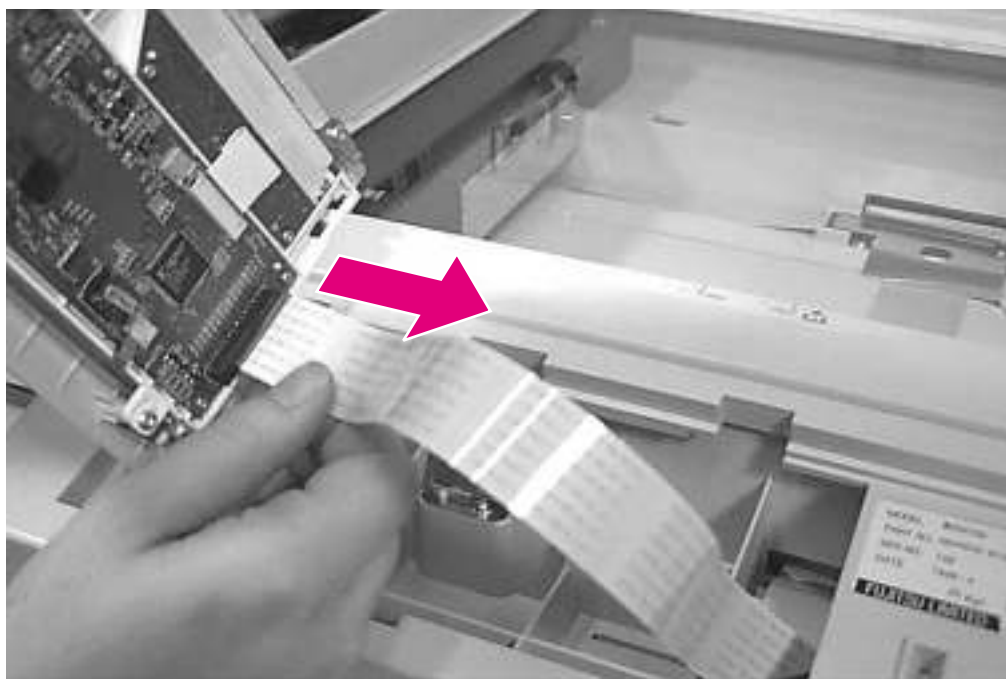

Figure 6-211 Front Panel Ribbon Cable
- 1 Plug the cable into the connector. When the cable is inserted in the connector, the contacts point toward the middle of the Front Panel as shown in Figure 6-211. This also allows the cable to lie flat.